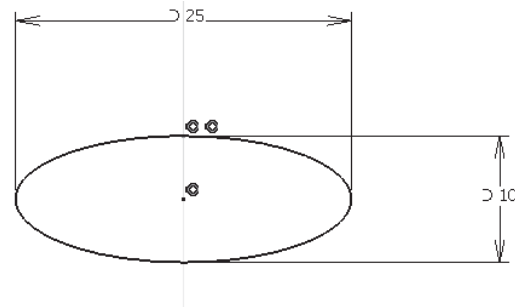

Figure 10-58 The profile for the swept surface
6. Draw an ellipse, as shown in Figure 10-58.